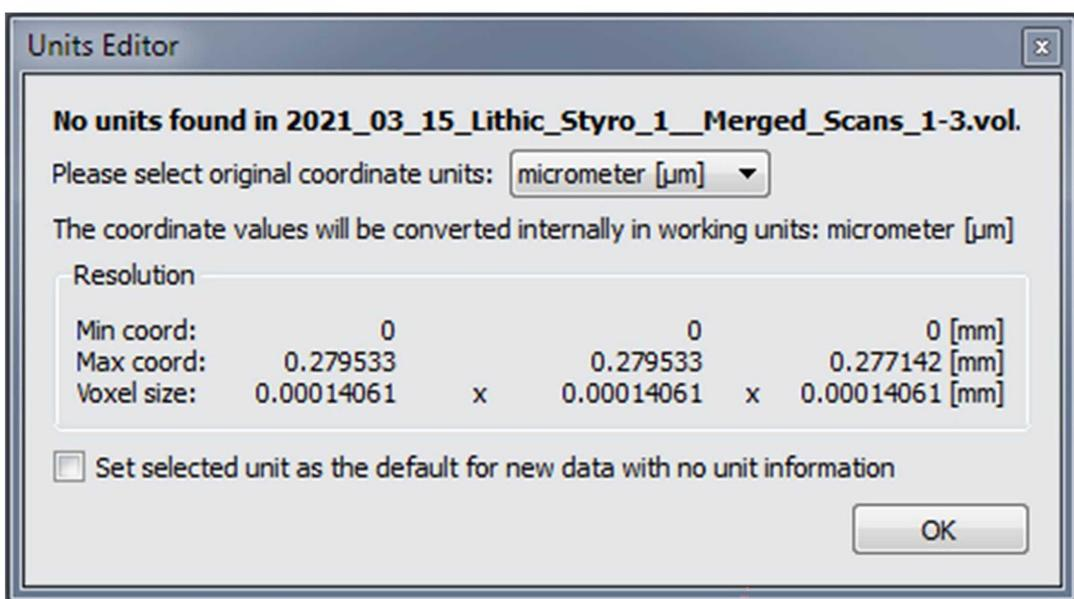

Fig. 10: ‘Units Editor window’.
- 20.10** Indicate unit in ‘Units Editor’ window (Fig. 10) according to indicated voxel size unit in pcr CT-scan metadata file (‘VoxelSizeRec=NUMBER’, yellow arrow in Fig. 9) and press ‘Okay’.